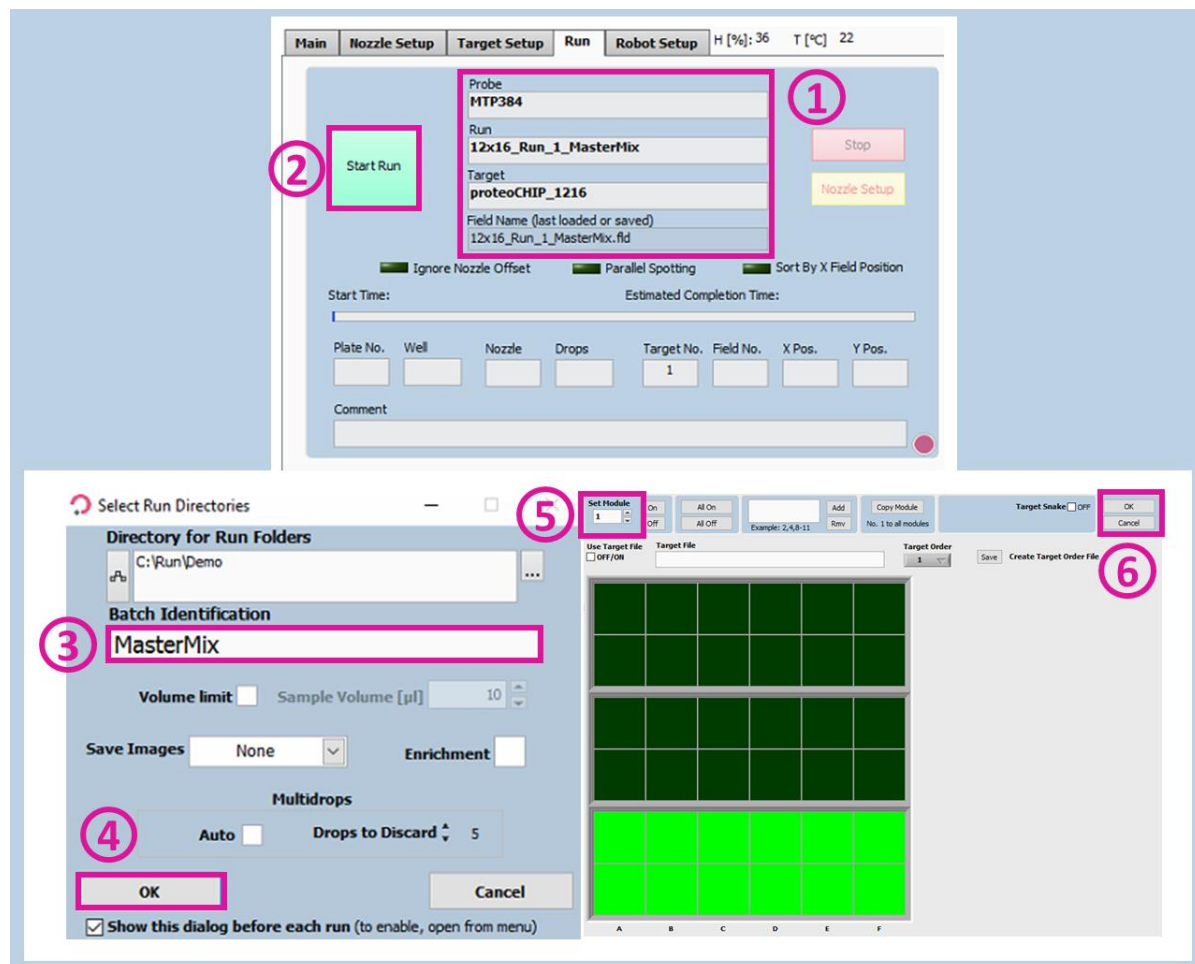

Figure 29: Start Run 3
Check that you selected the right Probe, Run and Target in the Run tab (Figure 29 ①). Start the run (Figure 29 ②), select the number of proteoCHiPs that you want to dispense in (Figure 29 ⑤) and click “OK” (Figure 29 ⑥).